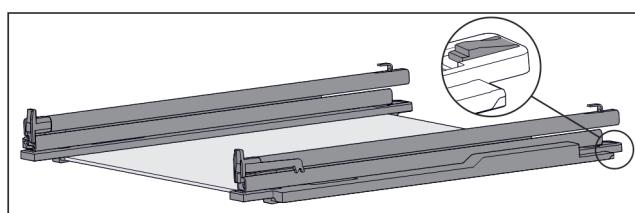

Fig. 127 Glass shelf with rails and retaining parts
- ▶ Press down retaining part at the rear (see Fig. 127) and at the same time push the rail back.